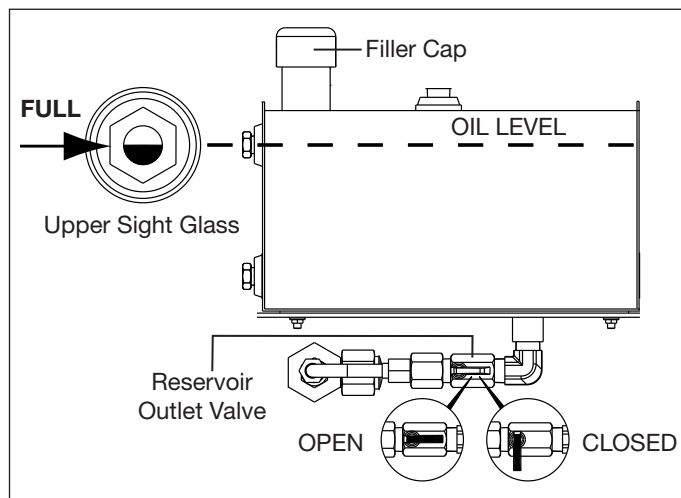

Figure 4, Hydraulic Oil Reservoir
- Be sure that the reservoir outlet valve is in the open position. See Figure 4.
The reservoir is **FULL** when the oil level in the upper sight glass is about halfway up, as shown in Figure 4. Oil capacity is approximately 1 US gallon [3,8 liters]. Use Enerpac Type HF Oil.